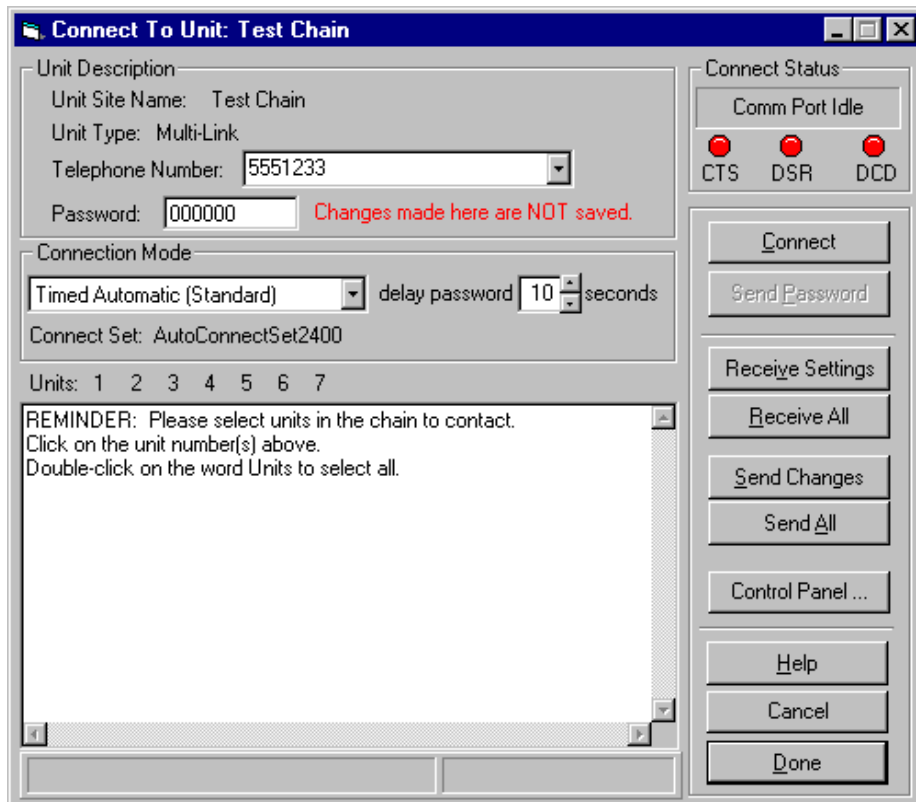

Figure 54: Connect to Unit Screen
- 1 At the Connect to Unit screen (Figure 54), select either Send Changes or Send All, depending on how much data you wish to send. If you don't know how to connect to a unit, refer to page 20.